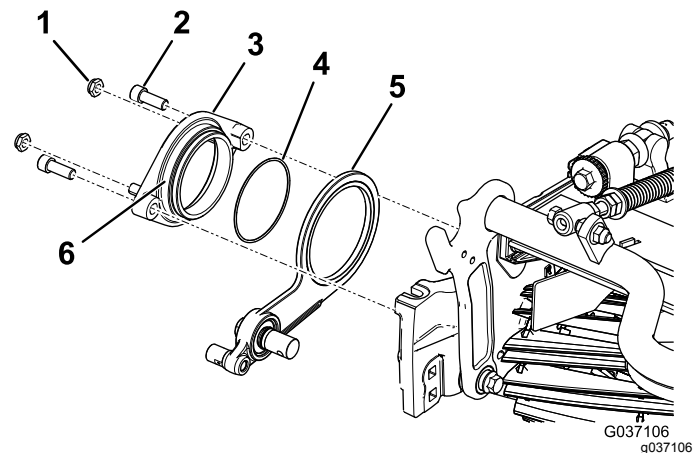

Figure 10
3. Apply anti-seize compound on the outside diameter of the pivot-hub assembly (Figure 10).
4. Secure the pivot hub over the idler assembly to the reel using 2 hex-socket bolts (Figure 10).
5. Loosely install the 2 locknuts on the pivot hub (Figure 10).